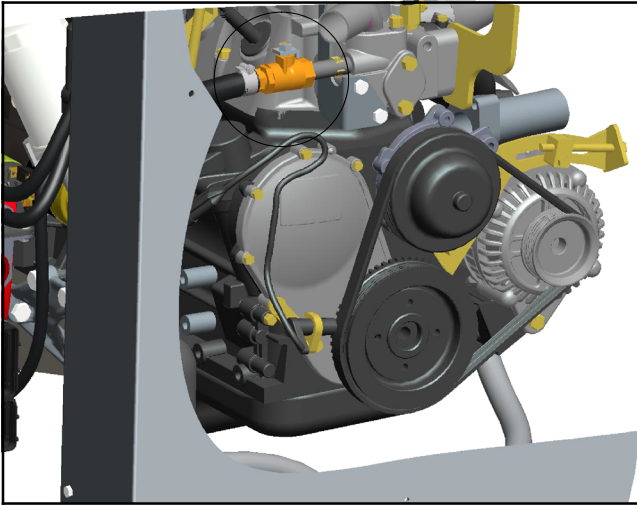

Figure 13 Location of Valve
17. Apply pipe sealant to pipe (X-204-24) and the hose barb (X-582-2). Assemble pipe, hose barb and shutoff valve (GM100183). Install the assembly into top port of engine. See Figure 13.